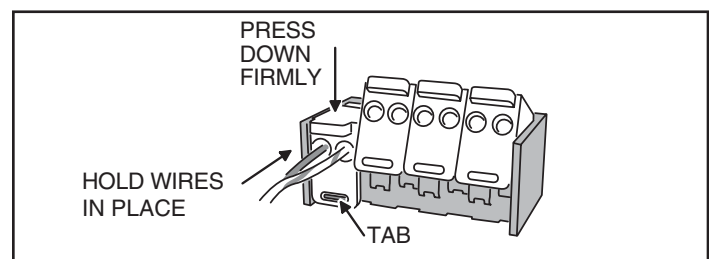

Figure 4. Press the Wire Latches Closed
STEP 5 Hold the wires completely inserted while pressing down firmly on the clear plastic wire latch. The latch will click twice as the wires are being seated into the internal insulation displacement wire guides. See Figure 4. **VERIFY THAT THE TAB ON THE CONNECTOR BODY IS INSIDE THE TAB SLOT ON THE CLEAR PLASTIC WIRE LATCH.**